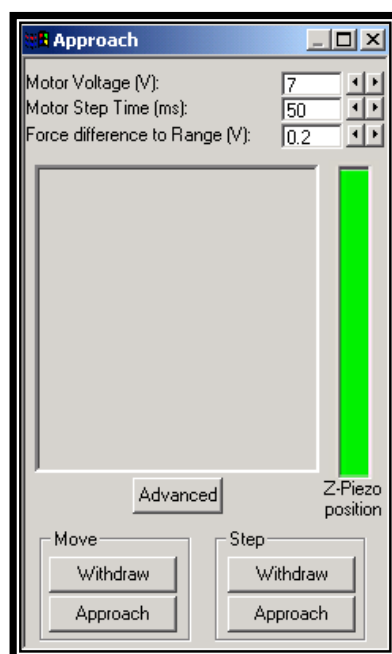

Fig.2.37
5. Select the *Approach Menu* by pressing . You will see the window shown in Fig.2.37: